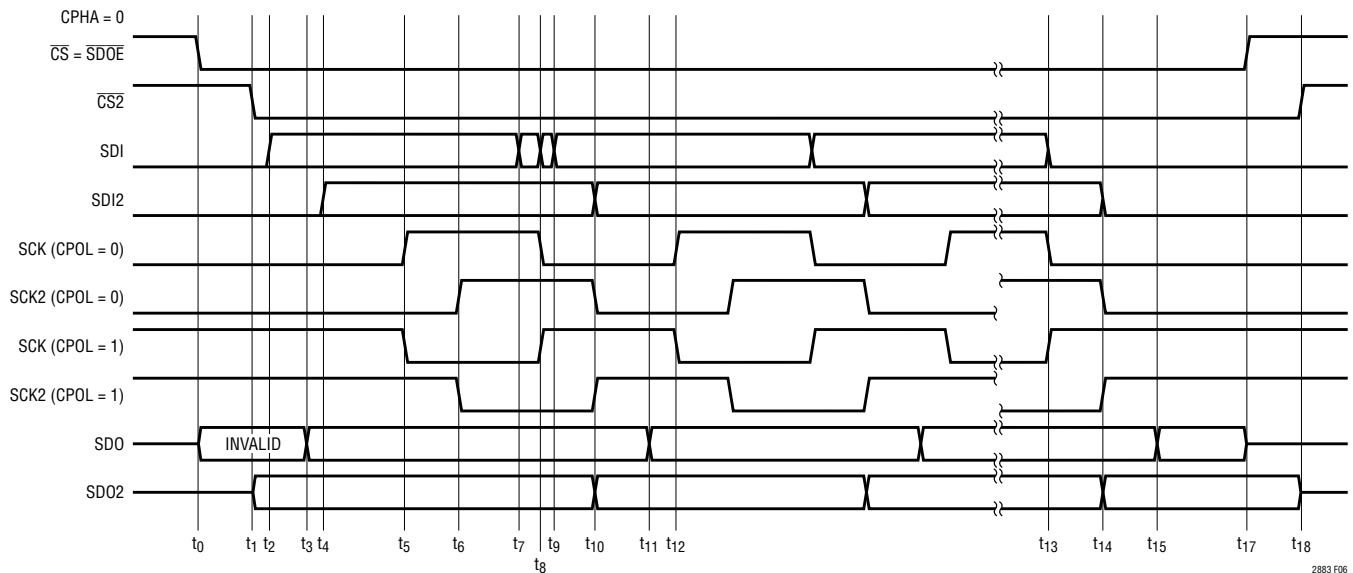
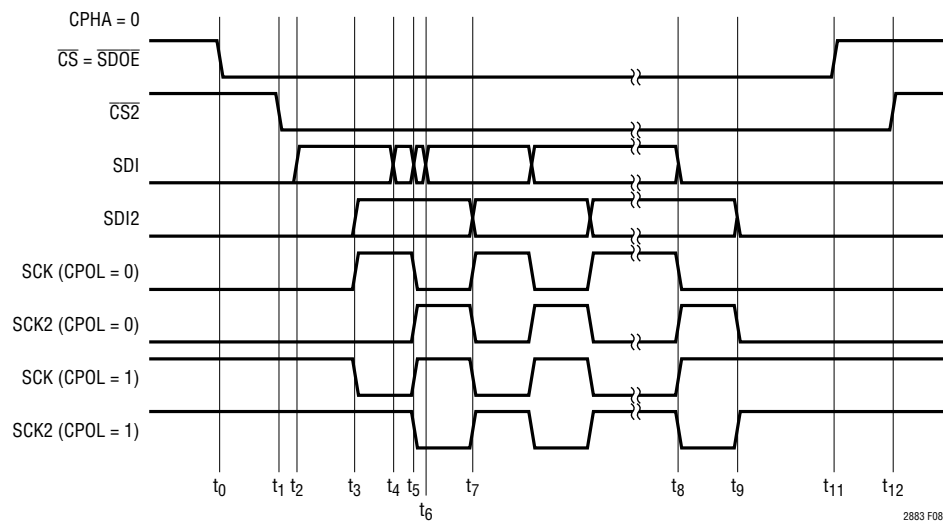

Figure 6. SPI Timing, Bidirectional, CPHA = 0
Figure 8. SPI Timing, Unidirectional, CPHA = 0
The maximum data rate for bidirectional communication is 4MHz, based on a synchronous system, as detailed in the timing waveforms. Slightly higher data rates may be achieved by skewing the clock duty cycle and minimizing the SDO to SCK set-up time, however the clock rate is still dominated by the system propagation delays. A discussion of the critical timing paths relative to Figure 6 and 7 follows.
Maximum data rate for single direction communication, master to slave, is 8MHz, limited by the systems encoding/decoding scheme or propagation delay. Timing details for both variations of clock phase are shown in Figures 8 and 9 and Table 4.
- SDI and SCK set-up data transition occur within the same data packet. Referencing Figure 6, SDI can precede SCK by up to 13ns ($t_7 \rightarrow t_8$) or lag SCK by 3ns ($t_8 \rightarrow t_9$) and not violate this requirement. Similarly in Figure 8, SDI can precede SCK by up to 13ns ($t_4 \rightarrow t_5$) or lag SCK by 3ns ($t_5 \rightarrow t_6$).